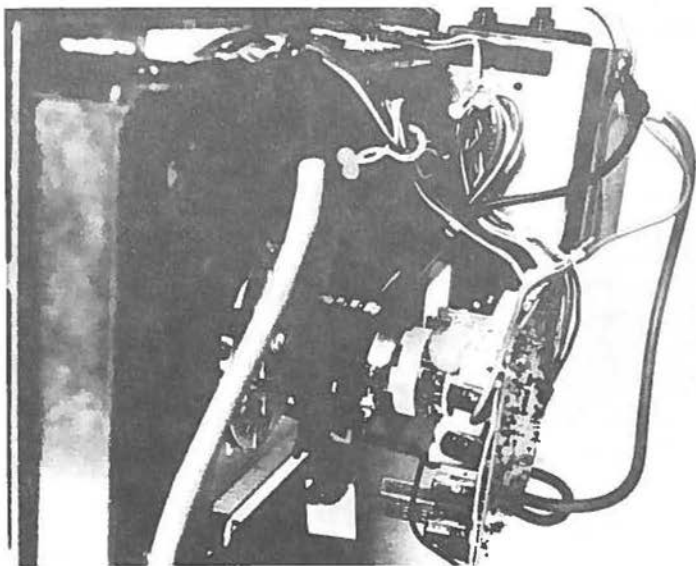

Figure 6-18 Color Deflection Board Removal
2. Disconnect the connector (B) from the deflection board, see Figure 6-18.